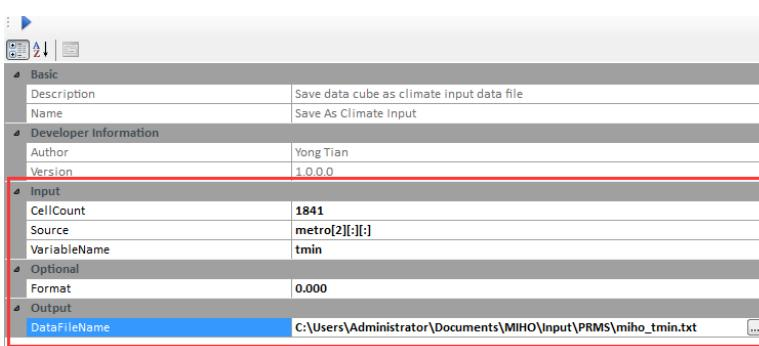

Figure 6-8 Settings used to generate the Minimum Temperature input file.
- 10) Change the input and output of the Save As Climate Input tool according to Figure 6-8 to save Minimum Temperature input file.